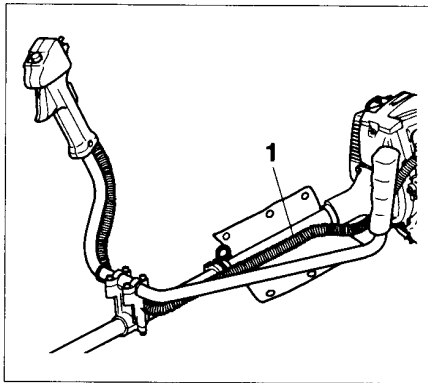

Fig. 1-3B
Unhook the hip pad and wrap the stop cords and throttle wire (1) with it. (Fig.1-3B)